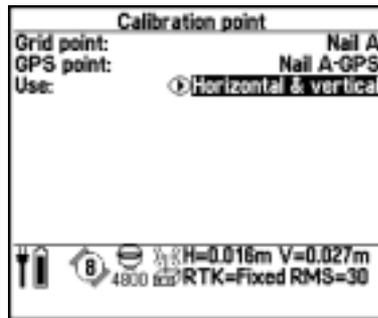

Figure 13.1 Calibration point screen
3. Press . The *Calibration point* screen appears as shown in Figure 13.1.